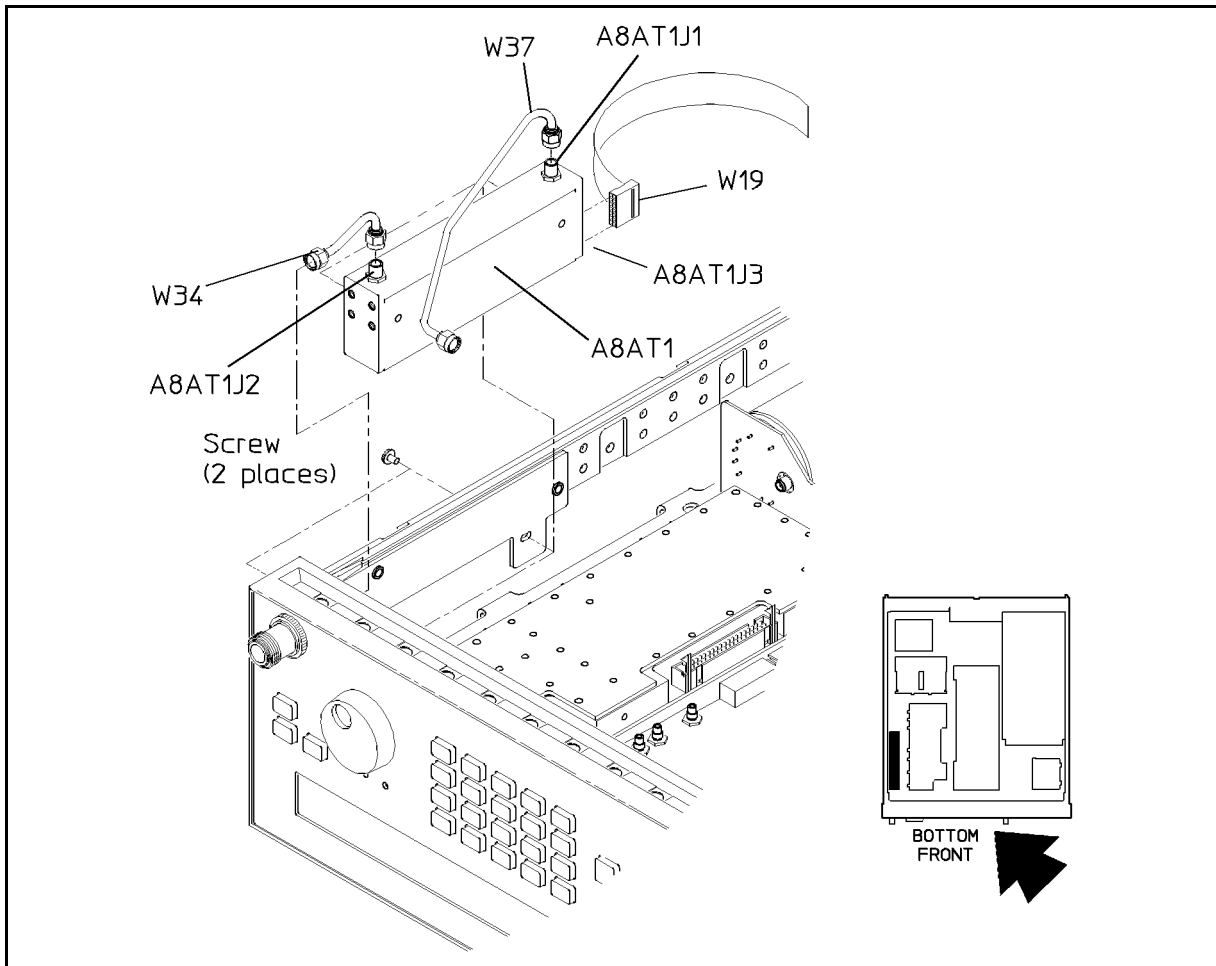

Figure 5-25. Step Attenuator Cables
5. Using a size 10 TORX® screwdriver, remove the two screws from the sheet metal bracket which anchors the Step Attenuator to the instrument. See Figure 5-25.
See Figure 5-25, and complete the following steps.